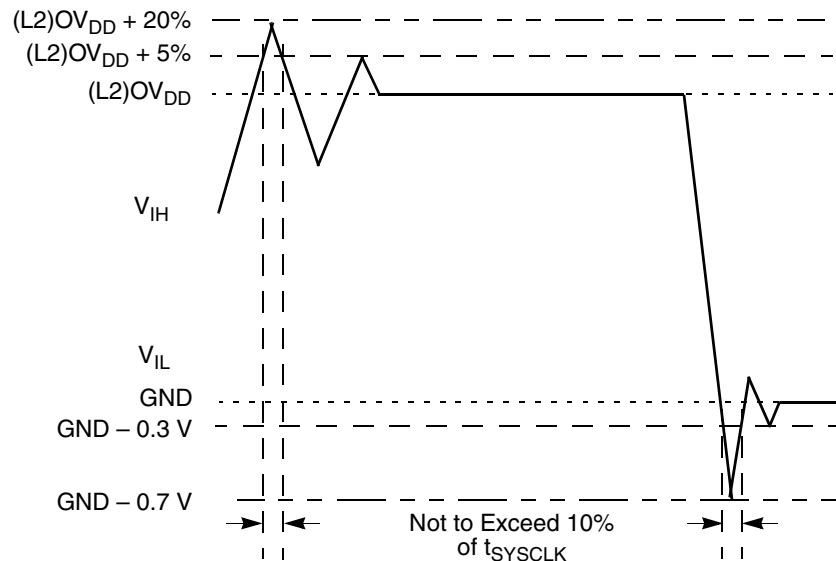

Figure 2. Overshoot/Undershoot Voltage
- This is a DC specifications only. V_{in} may overshoot/undershoot to a voltage and for a maximum duration as shown in Figure 2.
Figure 2 shows the allowable overshoot and undershoot voltage on the MPC755.